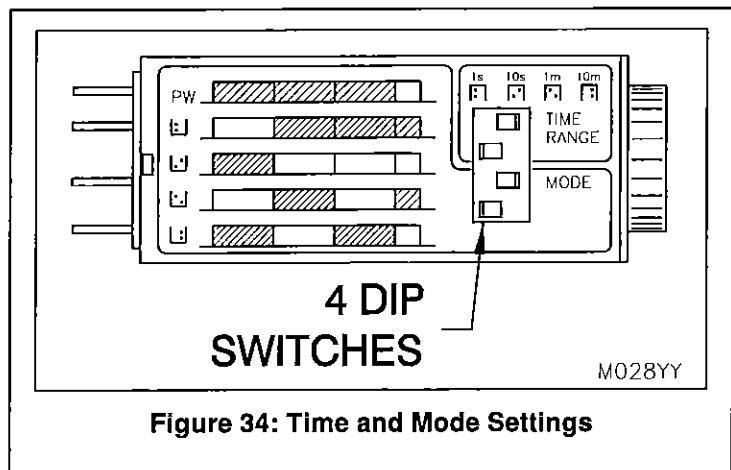

Figure 34: Time and Mode Settings
- Check the timer in the control box and verify time and mode settings. The top dip switch must be toggled to the right and the second down toggles to the left for the 6 second range. The third dip switch must be toggled to the right and the forth toggled to the left for the off setting. (See Figure 34, page 28) The timer should be set at 6 seconds.
- c. Check the timer in the control box and verify time and mode settings. The top dip switch must be toggled to the right and the second down toggles to the left for the 6 second range. The third dip switch must be toggled to the right and the forth toggled to the left for the off setting. (See Figure 34, page 28) The timer should be set at 6 seconds.
- b. Check the timer in the control box and verify time and mode settings. The top dip switch must be toggled to the right and the second down toggles to the left for the 6 second range. The third dip switch must be toggled to the right and the forth toggled to the left for the off setting. (See Figure 34, page 28) The timer should be set at 6 seconds.